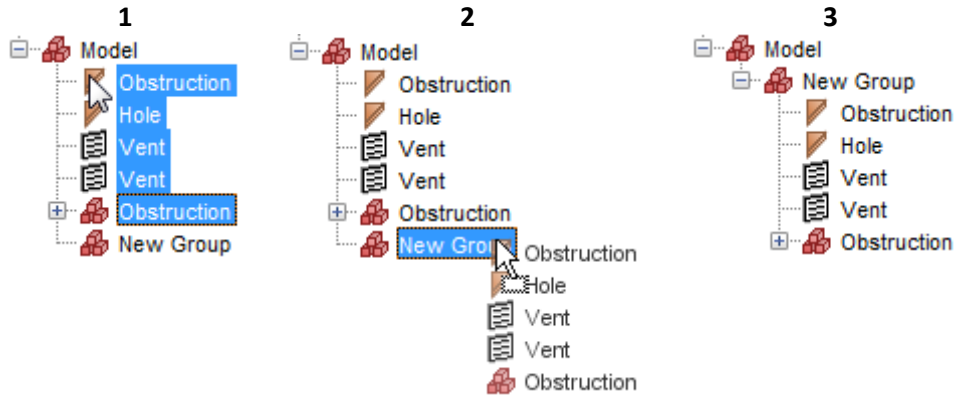

Figure 7.8. Dragging objects to a new group in the Navigation View
- For **existing objects**, in the **Navigation View**, select the objects and drag them into the desired group as shown in Figure 7.8. Alternatively, right click them in any view and select **Change Group....** In the **Change Group** dialog shown in Figure 7.9, select the desired group. If a new group is desired, select **New Subgroup** and specify a name. If this is chosen, a new group will be created under the specified existing group, and the selected objects will be moved to this new group.